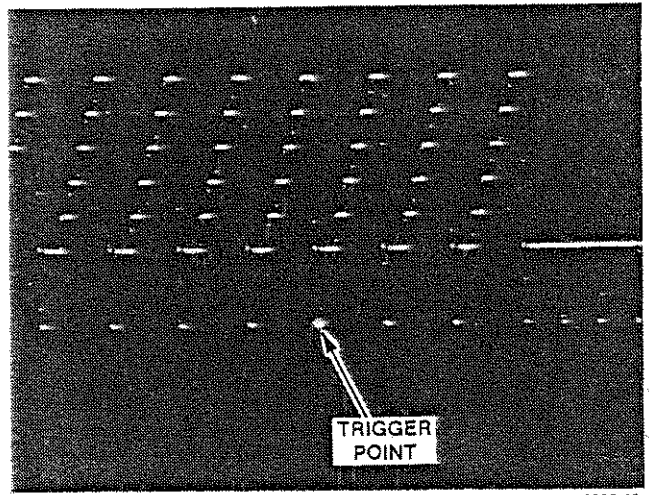

Fig. 4-31 TV PAL system trigger display
- a. Set Trigger COUPLING to FIELD1 and FIELD LINE # (TRIG LEVEL 2) to 523 as shown in Figure 4-31.